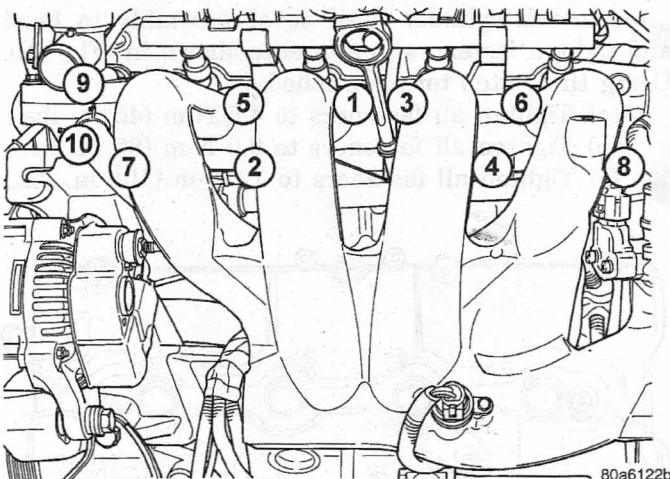

Fig. 27 Intake Manifold Tightening Sequence-2.4L Engine
(12) Remove intake manifold fasteners (Fig. 27). Remove intake manifold.
(1) Install new intake manifold and gasket. Tighten fasteners to 12 N·m (105 in. lbs.) in sequence shown in (Fig. 27).
(2) Remove covering from fuel injector holes and insure the holes are clean. Install fuel rail assembly to intake manifold. Tighten screws to 23 N·m (200 in. lbs.).
(3) Inspect quick connect fittings for damage, replace if necessary. Refer to Group 14, Fuel System for procedure. Lubricate tube with clean engine oil.